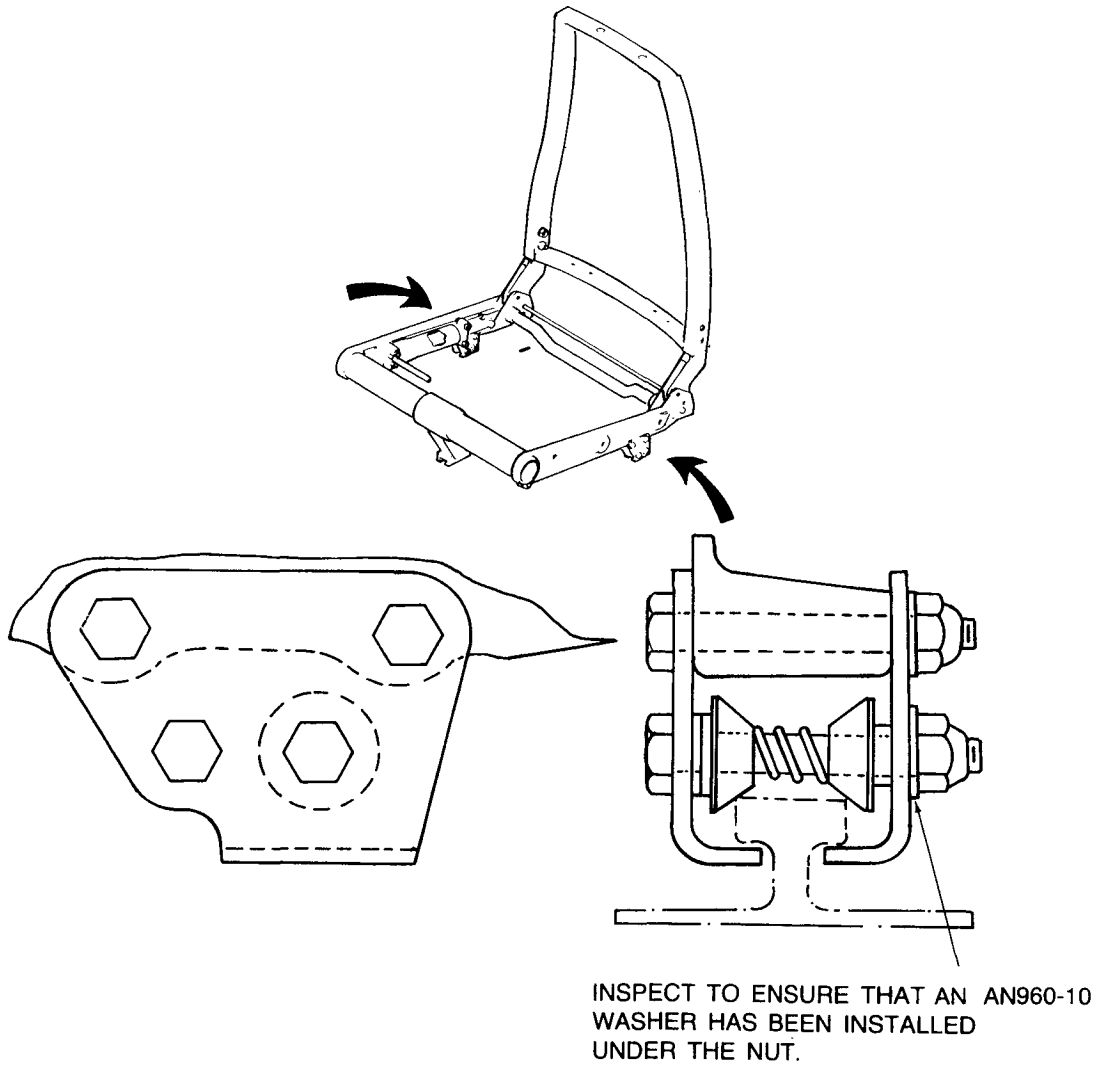

Figure 1
1. Locate the two aft feet on the pilot and copilot seat frame assemblies as shown in Figure 1.
3. If required, install a P/N AN960-10 washer (obtain locally) under the nut, on the lower aft bolt as shown in Figure 1. This applies to both the left and right hand sides of the pilot and copilot seat frame assemblies.